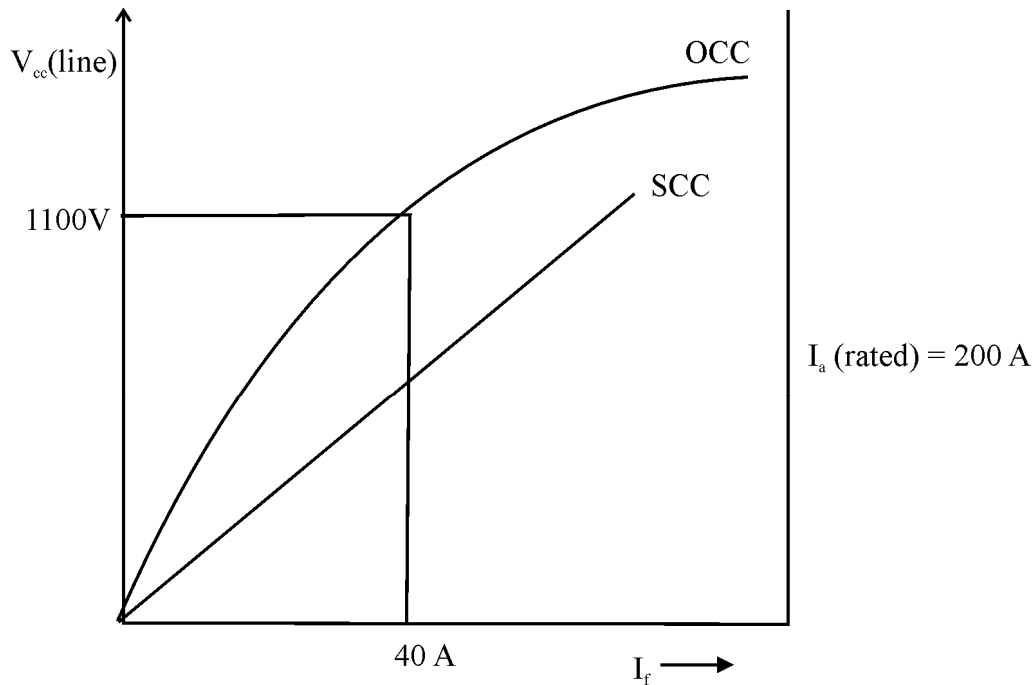

Fig. M4 Occ and Scc characteristics
**Ans:** The occ and scc characteristics of the synchronous generator are given in Fig. M4